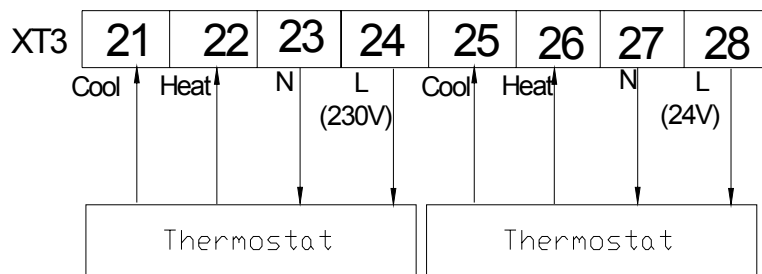

Fig .1
- iv. If it is Heating/Cooling thermostat , please connect wire as Fig 1 ;